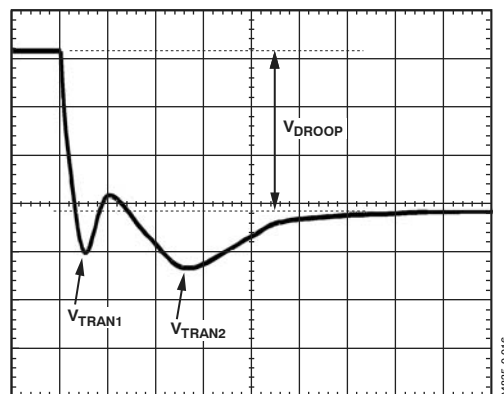
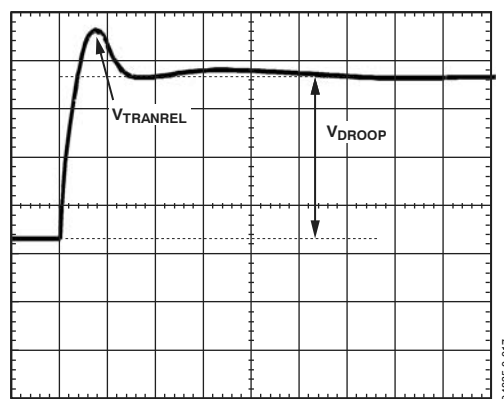

Figure 16. Transient Setting Waveform
Figure 17. Transient Setting Waveform
19. With the dynamic load still set at the maximum step size, expand the scope time scale to see 2 μ s/div to 5 μ s/div. The waveform may have two overshoots and one minor undershoot (see Figure 16). Here, V_{DROOP} is the final desired value.
21. For load release (see Figure 17), if $V_{TRANREL}$ is larger than V_{TRAN1} (see Figure 16), there is not enough output capacitance. Either more capacitance is needed, or the inductor values need to be smaller. (If inductors are changed, start the design again using the spreadsheet and this tuning procedure.)